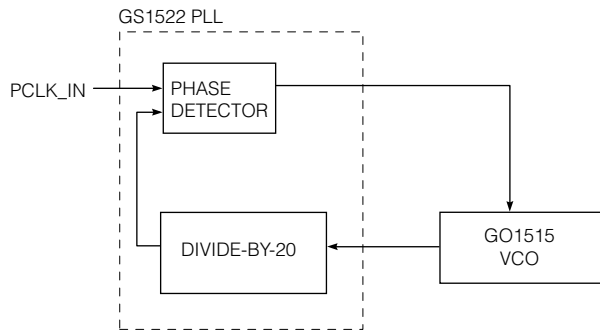

Fig. 16 Phase Lock Loop Frequency Synthesis
The GS1522 requires the HDTV parallel clock (74.25 or 74.25/1.001MHz) to synthesize a serial clock which is 20 times the parallel clock frequency (1.485MHz) using a phase locked loop (PLL). This serial clock is then used to strobe the output serial data. Figure 16 illustrates this operation. The VCO is normally free-running at a frequency close to the serial data rate. A divide-by-20 circuit converts the free running serial clock frequency to approximately that of the parallel clock. Within the phase detector, the divided-by-20 serial clock is then compared to the reference parallel clock from the PCLK\_IN pin (2). Based on the leading or lagging alignment of the divided clock to the input reference clock, the serial data output is synchronized to the incoming parallel clock.